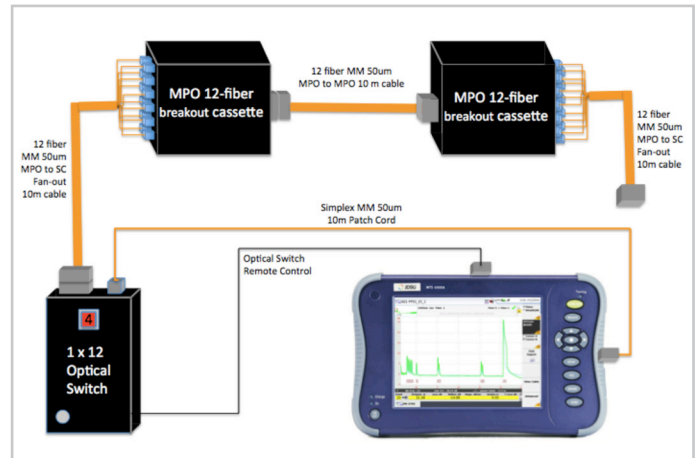

Figure 7. Test setup for Hi-Res link testing with breakout cassettes
- New EVO-A modules from Viavi offer integrated EF-compliance for MTS/T-BERD 8000 (v2) and 6000A v2 platforms. This eliminates the need for an external EF mode conditioner, which simplifies implementation by test technicians and ensures improvements in loss accuracies that EF compliance provides (see Figure 7 later in this document).